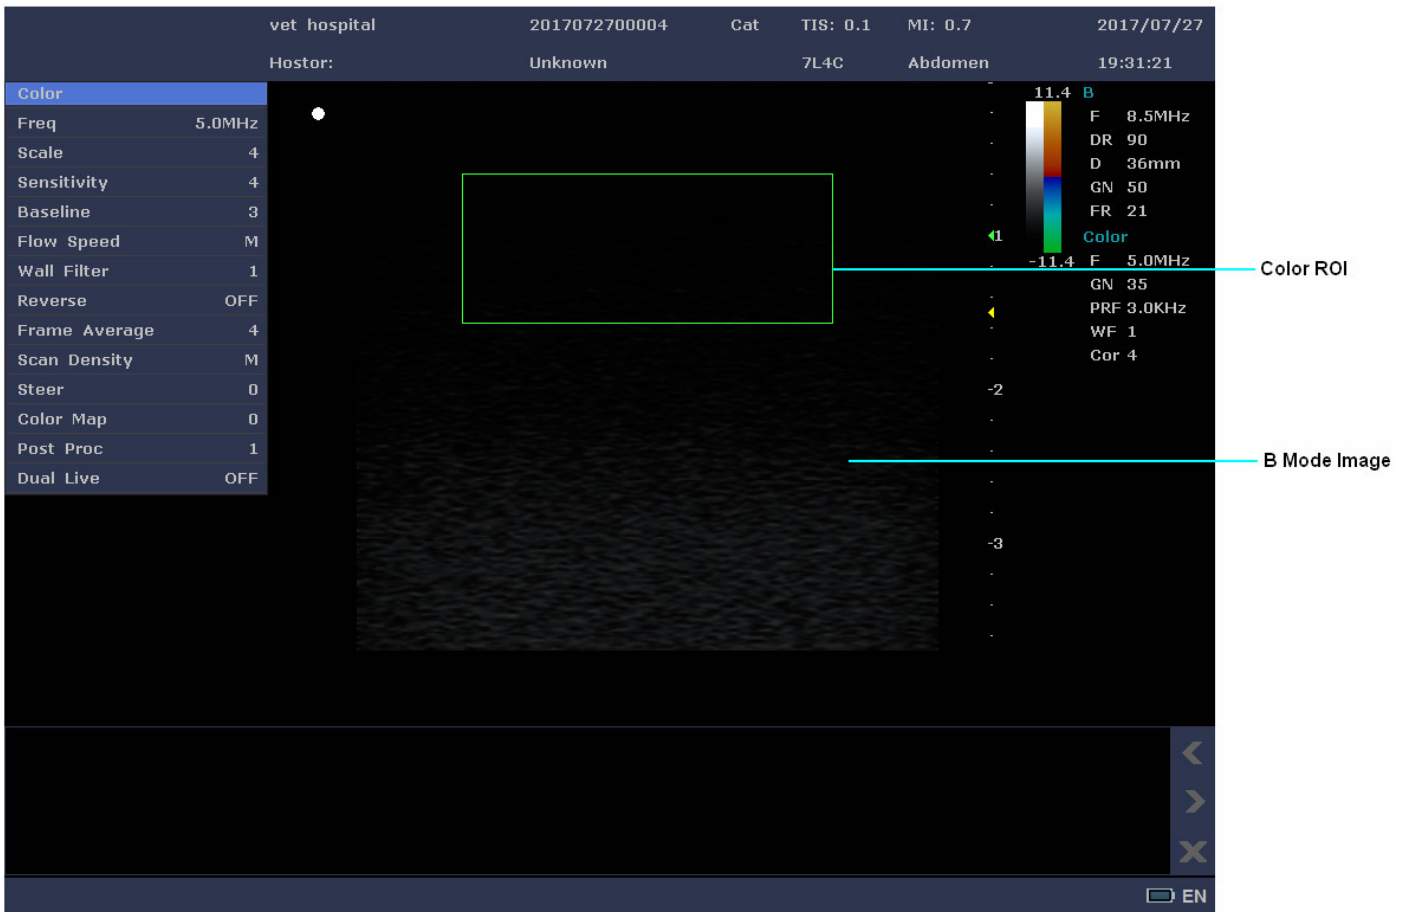

Figure 6-3 Color Doppler Mode Image
2. Press the **Color** key on the control panel to enter the color mode, as shown in Figure 6-3.